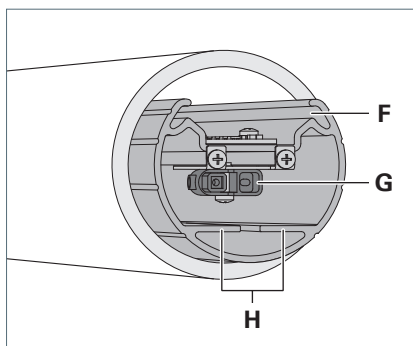

Fig. 5: Mounting profile and plug.
- Pull the mounting profile **F** somewhat out of the luminaire, see Fig. 5.